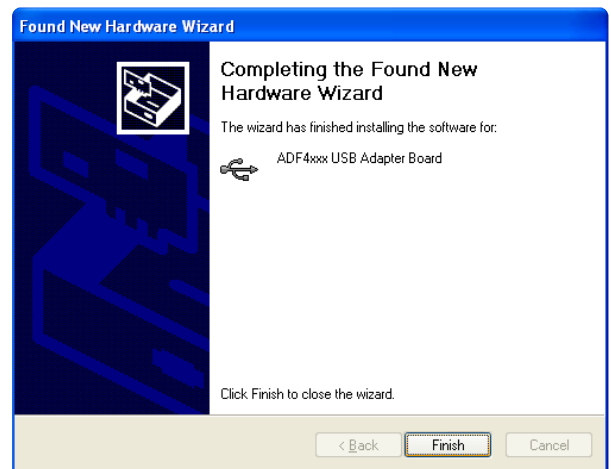

Figure 16. Windows XP USB Adapter Board Driver Installation, Complete Installation
3. Connect your SDP board (black) or USB adapter board (green) by USB. If you are using an SDP board, the drivers install automatically, and you are ready to run the software. If you are using a USB adapter board on Windows XP, follow the steps in the Windows XP Driver Installation Guide section (see Figure 13 to Figure 16). On Windows Vista or Windows 7, the drivers install automatically.